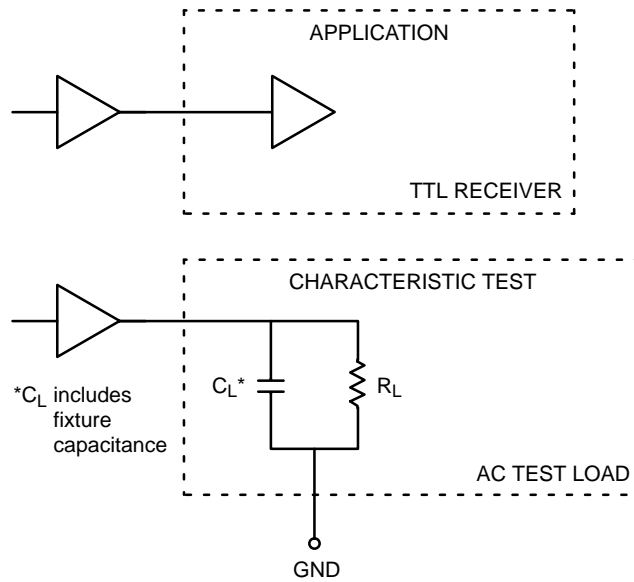

Figure 1. TTL Output Loading Used for Device Evaluation
5. Output Voltage = 1.0 V to 2.0 V. RL = 500 Ω to GND and CL = 25 pF to GND. Refer to Figure 1.